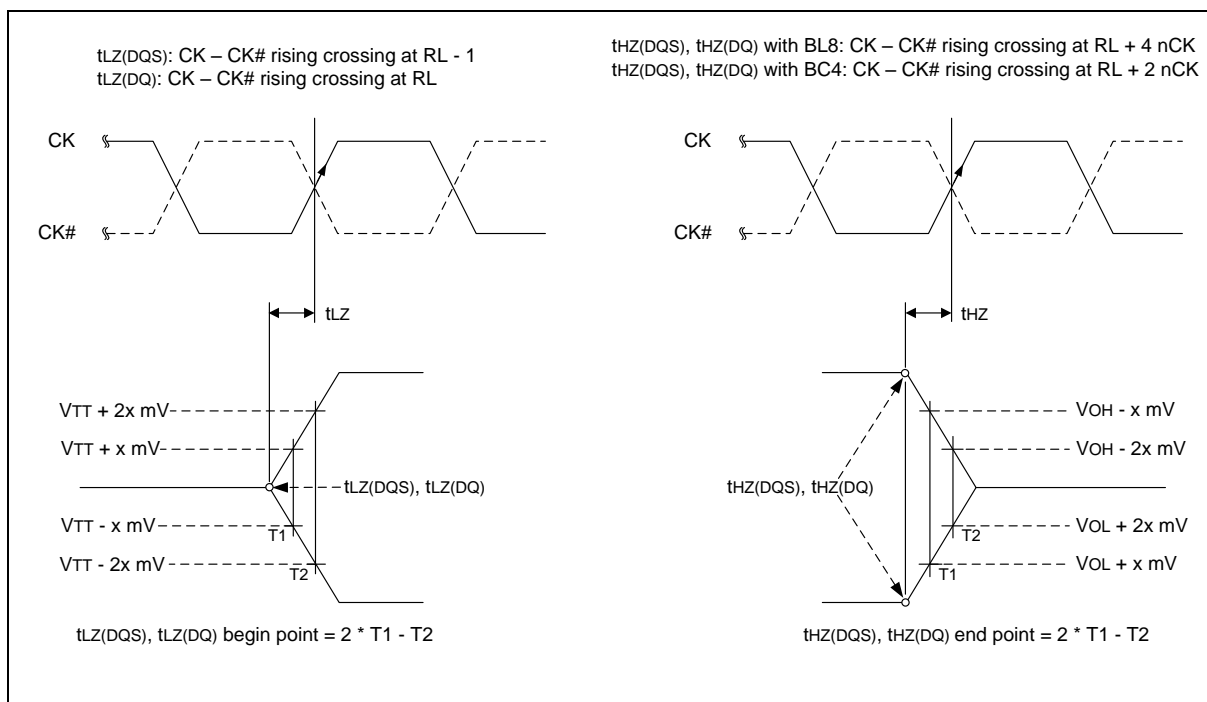

Figure 26 – tLZ and tHZ method for calculating transitions and endpoints
$t_{LZ}(DQS)$, $t_{HZ}(DQS)$ for preamble/postamble (see section 9.13.2.3 and Figure 26).
9.13.2.3 tLZ(DQS), tLZ(DQ), tHZ(DQS), tHZ(DQ) Calculation
tHZ and tLZ transitions occur in the same time window as valid data transitions. These parameters are referenced to a specific voltage level that specifies when the device output is no longer driving tHZ(DQS) and tHZ(DQ), or begins driving tLZ(DQS), tLZ(DQ). Figure 26 shows a method to calculate the point when the device is no longer driving tHZ(DQS) and tHZ(DQ), or begins driving tLZ(DQS), tLZ(DQ), by measuring the signal at two different voltages. The actual voltage measurement points are not critical as long as the calculation is consistent. The parameters tLZ(DQS), tLZ(DQ), tHZ(DQS), and tHZ(DQ) are defined as singled ended.